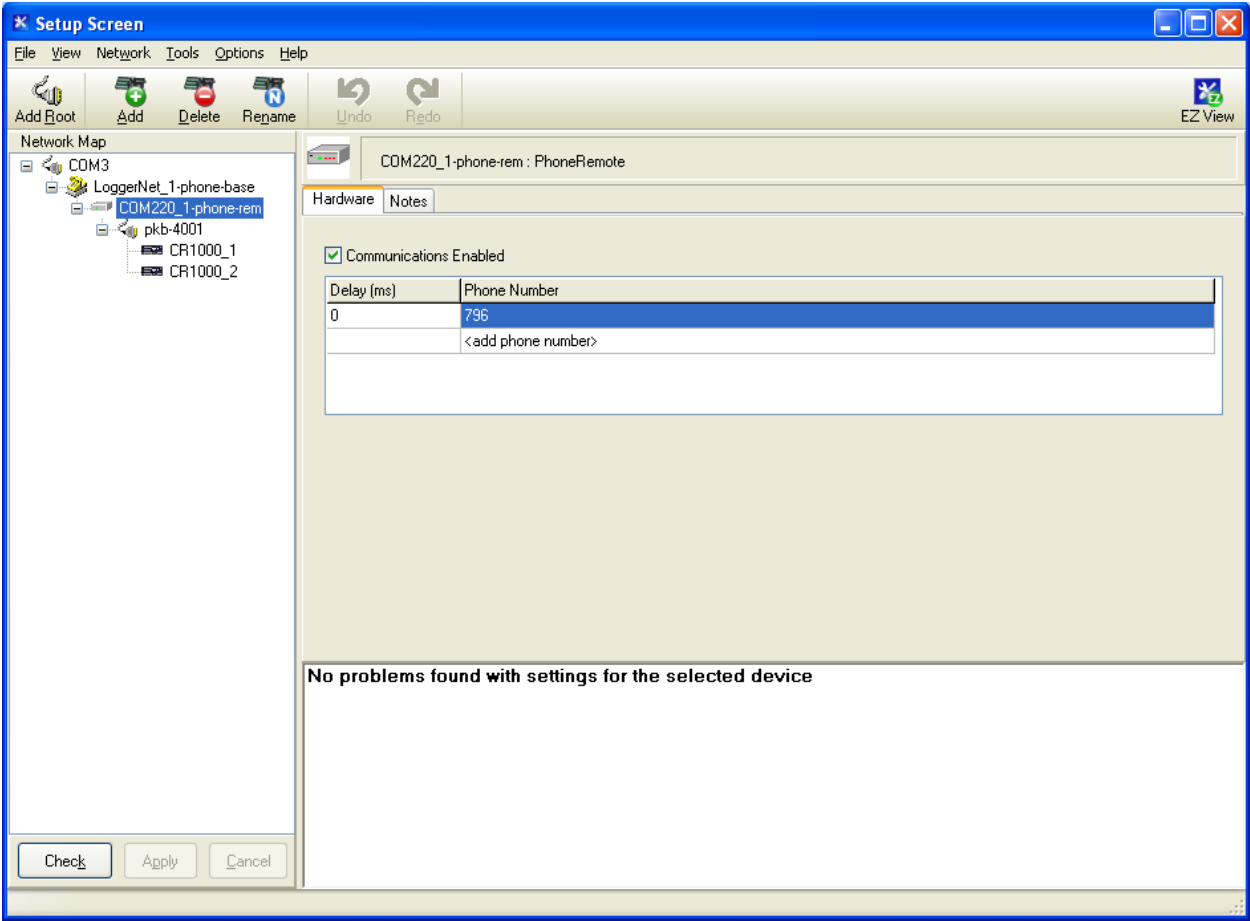

FIGURE I-3. Enter the base site's phone number.
- d. PhoneRemote – input base site's phone number (see FIGURE I-3)